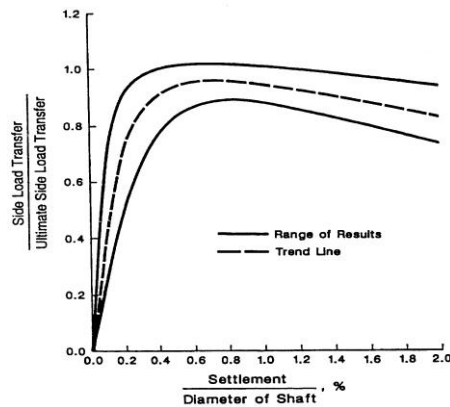
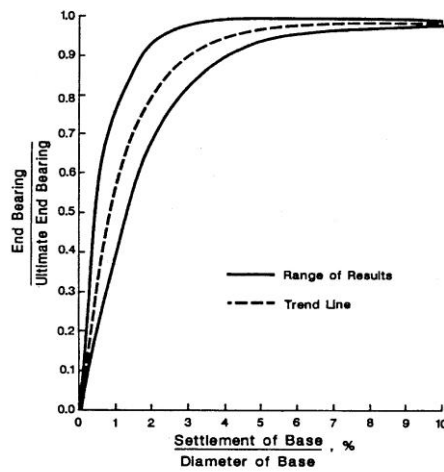

Figure 8-2.
Figure 8-4. Normalized load transfer relations for base resistance in cohesive soil (Reese and O'Neill, 1989)
2. Find relationships between settlement and load transfer ratios (developed resistance against ultimate resistance) using the corresponding charts in Fig 8-2 – 8-5
Typical settlement against load transfer ratios are shown in Figures 8-2 through 8-5 proposed by Reese and O'Neal (1988). Figure 8-2 and 8-3 represent the side load transfer ratio for cohesive soils and cohesionless soils/gravel respectively. Figure 8-4 and 8-5 represent the end bearing load transfer ratio for cohesive soils and cohesionless soils respectively.